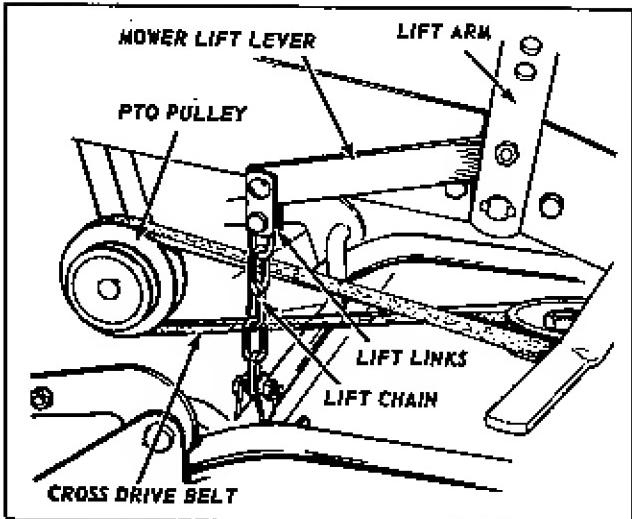

FIG. 3
3. Place the tractor lift lever in its rear position and attach the mower lift lever to the tractor lift arm on right hand side of tractor as shown in figure 3. Use hex cap screw, flatwashers, and hex nut furnished for this purpose.
4. Connect the mower lift chain to the lift lever by fastening the lift links in place with a pin and hair cotter as shown in figure 3.
5. Place the cross drive belt in position on the mower drive pulley. Give the belt a 90° twist towards the left hand side of the tractor and mount belt to larger pulley of power take-off as shown in figure 3. When installed in proper manner, the belt should run from the left side of the mower pulley to bottom side of power take-off pulley.